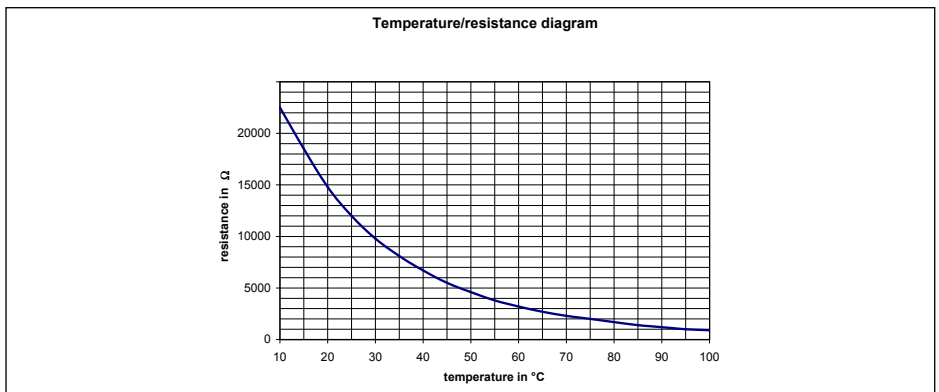

Fig. 22 Sensor resistance graph
- Check temperature sensors for resistance values against *Fig. 22* (humidity on sensors).